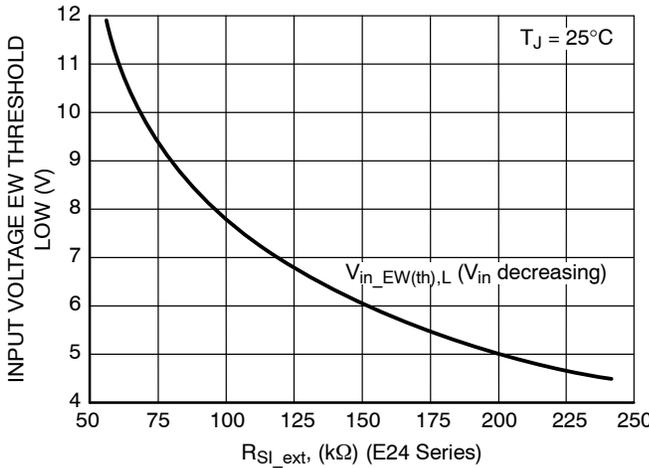
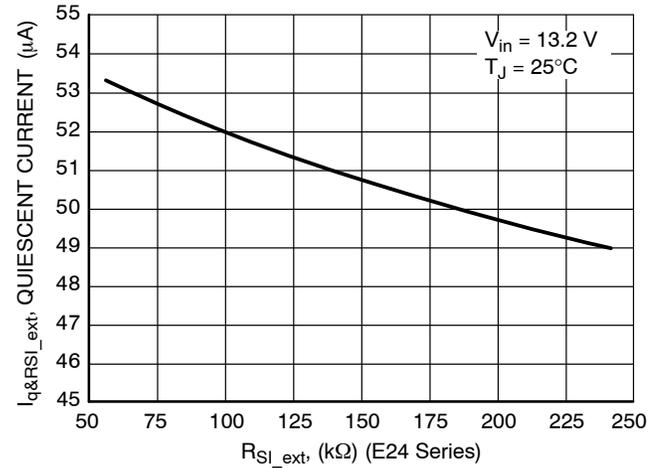

Figure 26. Input Voltage EW Threshold Low vs.  $R_{SI\_ext}$  (Calculated Using E24 Series)
Figure 27. Quiescent Current vs.  $R_{SI\_ext}$  (Including  $I_{RSI\_ext}$ , Calculated Using E24 Series)
13.  $I_q$  for Preset EW Threshold Options is measured when  $R_{SI\_ext}$  is not used. For typical values of  $I_q$  vs  $R_{SI\_ext}$  see Figure 27.
Practically only preset options above 4.5 V can be used without RSI\_ext due to minimum operating input voltage value limitation. For other preset options the trip point has to be adjusted externally using RSI\_ext resistor connected between input monitor SI and GND (see Figure 1). For other preset options RSI\_ext has to be used to achieve Vin\_EW(th) > 5.5 V (minimum operating input voltage value). The value for RSI\_ext is recommended to be selected in range from 50 kΩ to 250 kΩ and the trip point can be shifted according to Figure 26. In case of RSI\_ext values higher than 200 kΩ two resistors in series could be used in order to eliminate leakage current of the resistor and hence ensure precision of its resistance value. The higher is RSI\_ext the lower is overall Quiescent Current of the application (see Figure 27). General formulas for calculation of Vin\_EW(th)Low or RSI\_ext
The Sense Output is from an open drain driver with an internal 30 kΩ pull up resistor to  $V_{out}$ . Figure 26 shows the SO Monitor timing waveforms as a result of the circuit depicted in Figure 1. If the input voltage decreases the output voltage decreases as well. If the SI input low threshold voltage is crossed it causes the voltage on the SO output goes low sending a warning signal to the microprocessor that a reset signal may occur in a short period of time. TWARNING is the time the microprocessor has to complete the function it is currently working on and get ready for the reset shutdown signal.